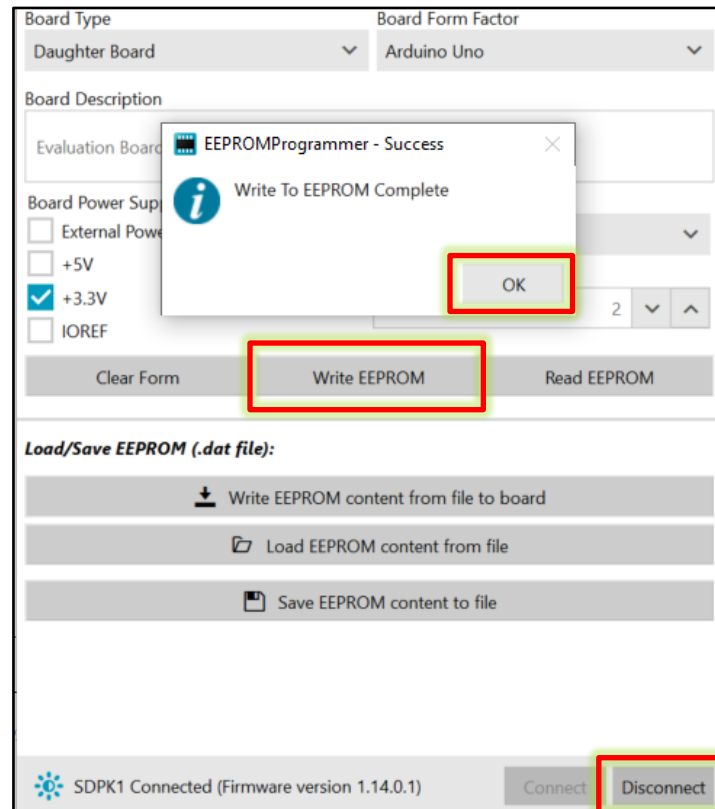

Figure 14 Write to EEPROM Complete Pop-up Window
4. Click on the "Write EEPROM" button located in the center of the window. Wait for the pop-up window to appear, indicating the completion of the EEPROM write process, as shown in Figure 14. Click on the "OK" button to proceed.